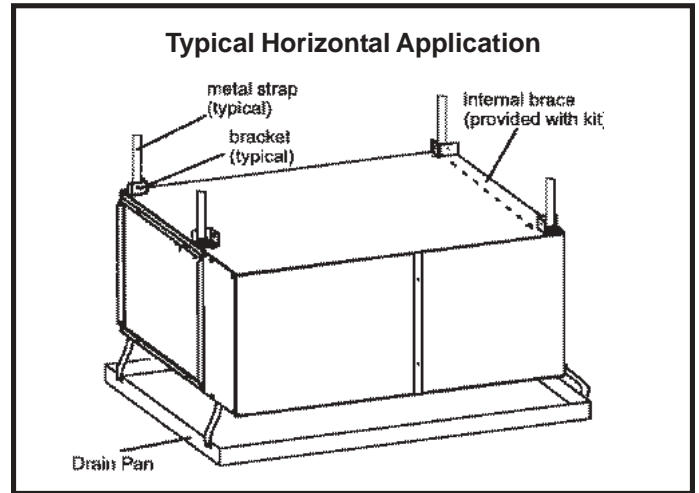
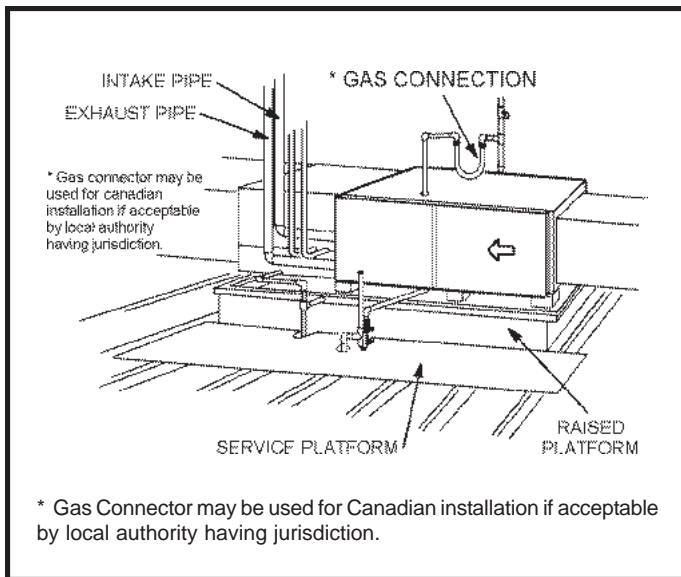
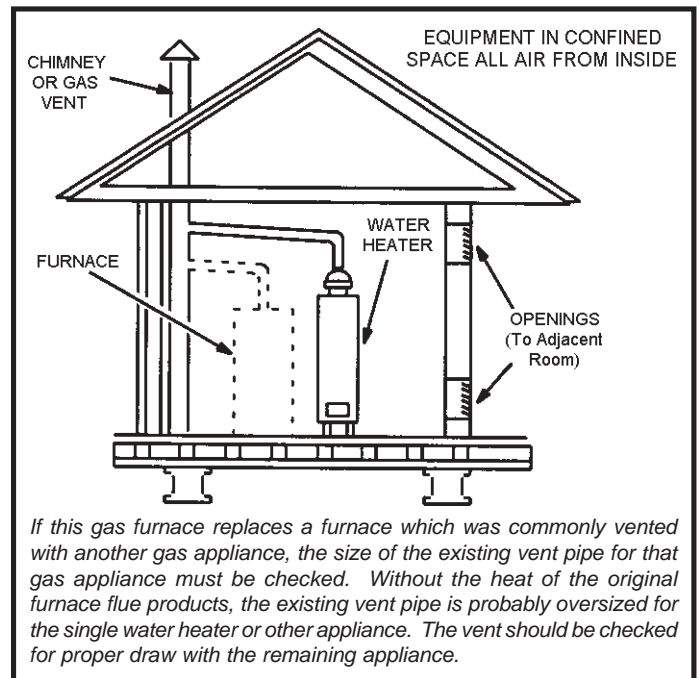

Figure 12
Figure 13
Figure 15
This furnace may be installed in either an attic or a crawlspace. Either suspend the furnace from roof rafters or floor joists, as shown in Figure 12 or install the furnace on a platform, as shown in Figure 13. A horizontal suspension kit (51W10) may be ordered or use equivalent.
2. Construct a raised wooden frame and cover frame with a plywood sheet. If unit is installed above finished space, fabricate an auxiliary drain pan to be installed under unit. Set unit in drain pan as shown in Figure 13. Leave 8 inches for service clearance below unit for condensate trap, unless trap is installed remotely.
This unit is shipped with vent exhaust / air intake connection at the top cap. See Figure 13. Using parts provided, the furnace may be field modified to have these connections on the right side of the furnace cabinet. See Figure 15 and follow the steps below. For left side venting order kit 87W73.
2. Loosen hose clamps which attach rubber fittings to the white PVC pipes inside the vestibule area, See Figure 13.
3. Loosen the clamp which secures the pipes at the blower deck. See Figure 13.